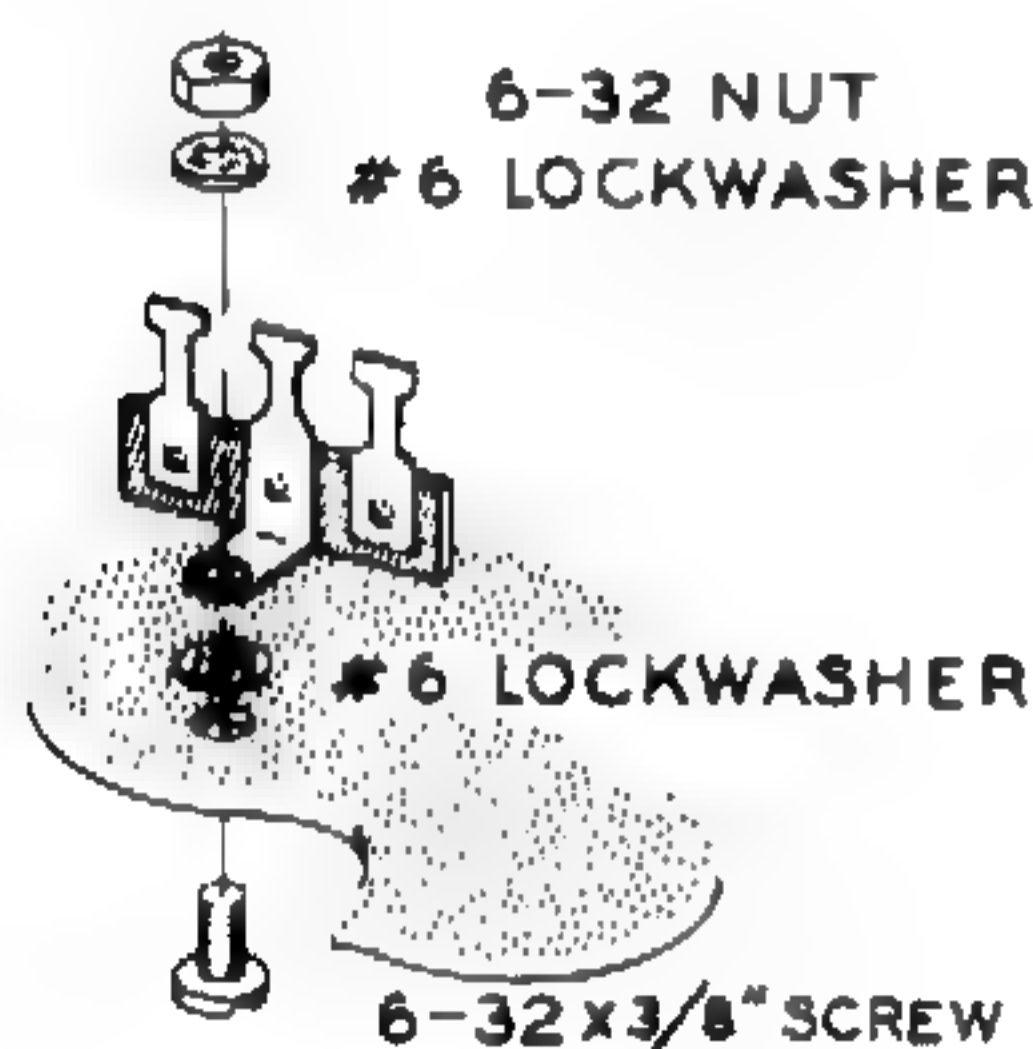

Figure 1
- (✓) Referring to Figure 1, install a 3-lug terminal strip at N. Use a 6-32 x 3/8" screw, #6 lockwashers, and a 6-32 nut.